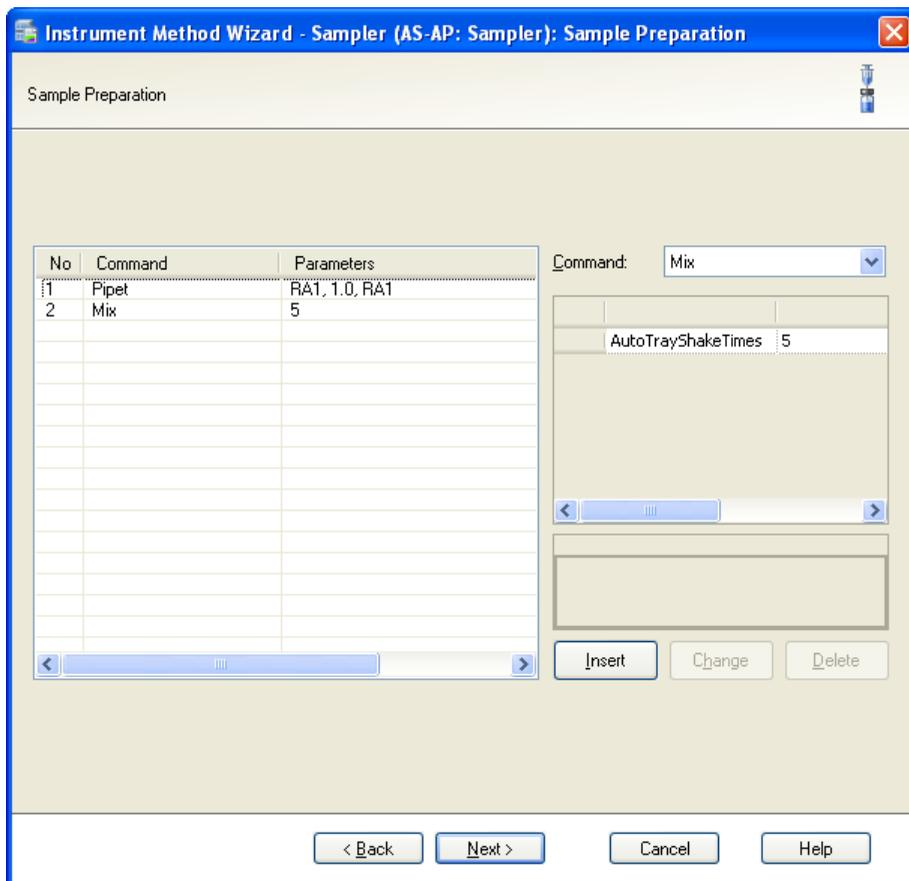

Figure 3-11. Dionex AS-AP Sampler Options (Third Page): Sample Preparation (Chromeleon 7 Instrument Method Wizard Shown)
In the Instrument Method Wizard or Program Wizard, the third sampler options page (see Figure 3-11) provides commands and parameters for preparing samples before injection. When multiple sample preparation steps are required (for example, pipetting into a vial and then mixing the vial contents), list the operations in the order in which they should be performed.
- c. The SpReagentVolume property is selected on the third sampler options page in the Instrument Method Wizard or Program Wizard (see Figure 3-11).